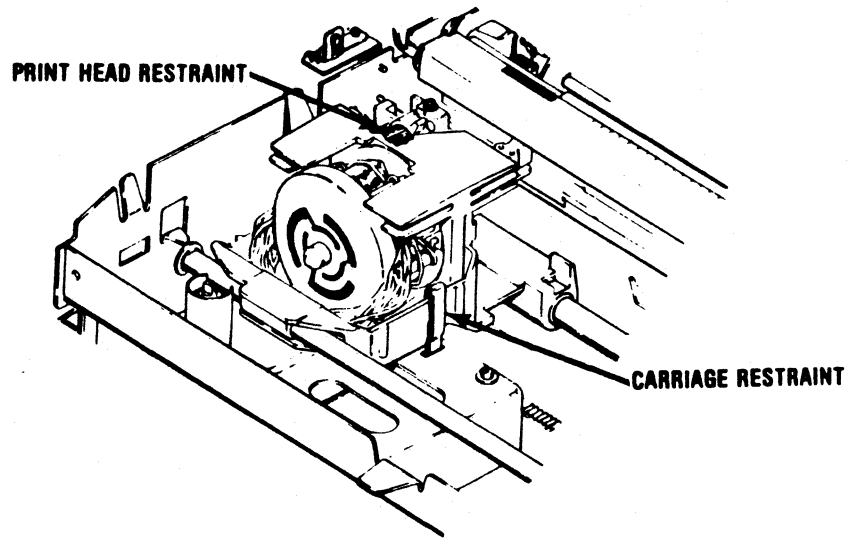

Figure 1-1 Print Head and Carriage Restraint Removal
1. Remove the metal carriage restraint (see Figure 1-1).
2. Remove the red rubber print head restraint (see Figure 1-1).